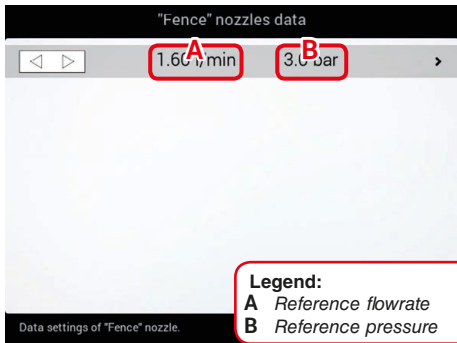

Fig. 91
- Select the nozzle you wish to set up (Fig. 91).